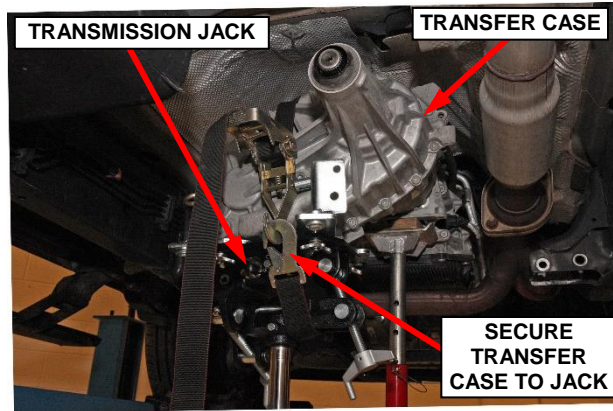

Figure 21 – Support and Secure Transfer Case
- 26. Support the transfer case with a suitable transmission jack (Figure 21).
- 27. Secure the transfer case to the jack with chains or straps (Figure 21).